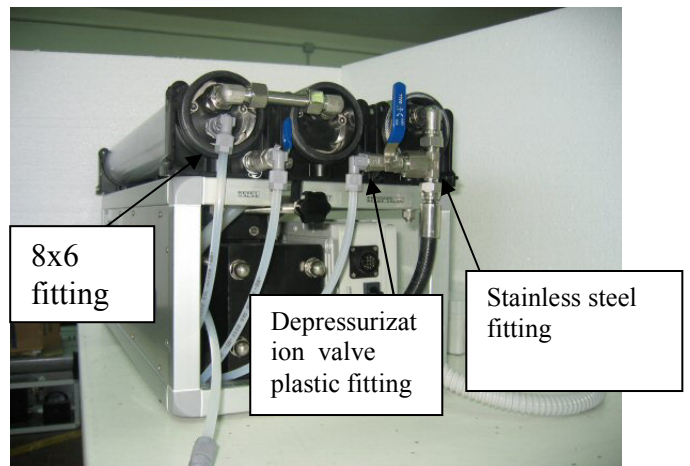

Fig.3 – Right view
14) Reconnect, on the right side, the 3/8 high pressure hose coming from the third tube, and all the plastic fittings (fig. 3).